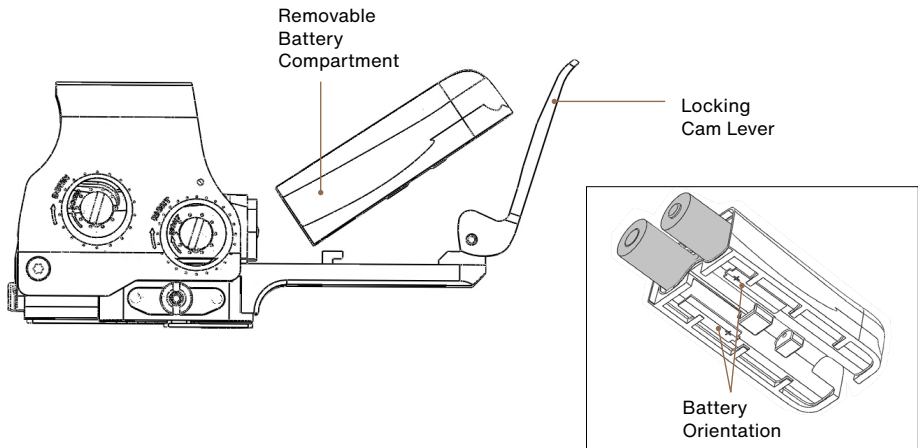

FIGURE 2
- Remove the battery compartment by lifting up on the locking cam lever and carefully sliding the battery compartment away and up from the sight housing (**FIGURE 2**).